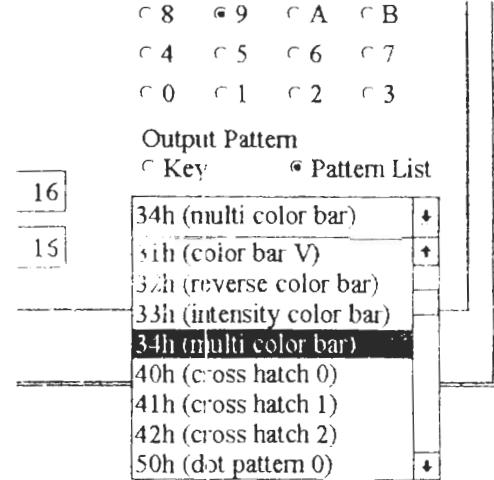

Figure 5-2
- (2) The "↓" below the "Pattern List" is changed from gray to black as shown in Figure 5-2. Click the "↓".
- (3) The pattern number list is displayed as shown in Figure 5-2. Use the "↑" or "↓" to select the pattern number.